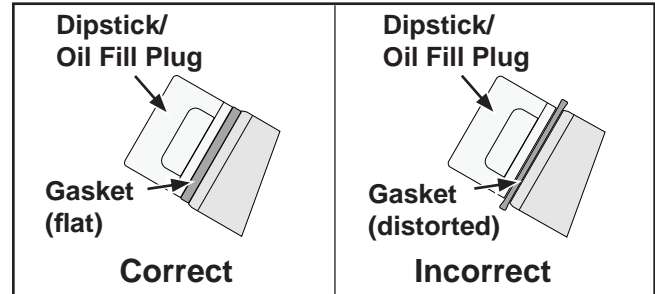

**Figure 6-7. Dipstick Oil Level Check.**
1. To keep dirt, debris, etc., out of the engine, clean the area around the oil fill plug/dipstick before removing it. See Figure 6-7.